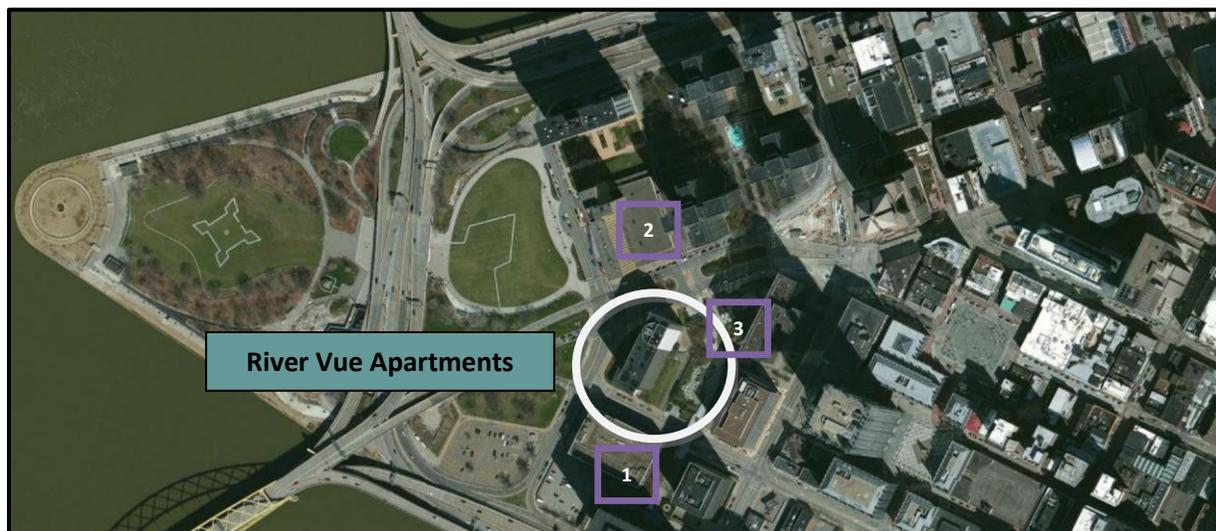

Figure 9 – Aerial View of Project Location from Flash Earth
The site of River Vue Apartments is located in the Golden Triangle of the city of Pittsburgh, across from Point State Park. The aerial image below, Figure 9, shows the location of the River Vue Apartments project circled in white. Sitting on the corner lot, the site for the River Vue Apartments project is located next to and across from several existing structures. The Pittsburgh Post-Gazette building (1), the Wyndam Grand Pittsburgh Downtown Hotel (2), and the Gateway Center Parking Garage (3) are just a few of the structures located near the project.